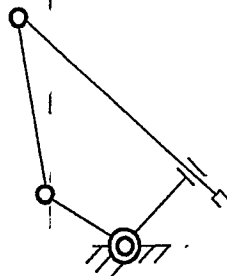

Fig. 1
4. Find the direct kinematics equation of the four-link closed chain planar arm shown in Fig. 1. The two links connected by the prismatic joint are orthogonal to each other. [16]